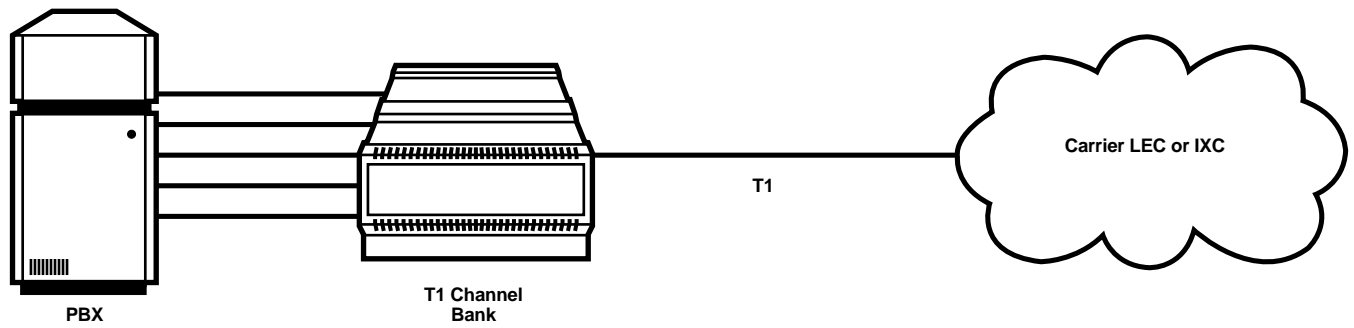

Fig. 11-5. Timing for Long Distance Service.
1. Clocking is provided by the carrier (Fig. 11-5).